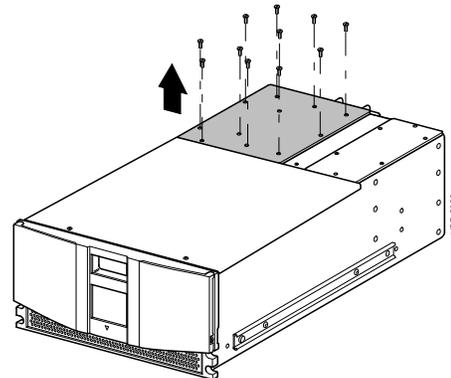

Figure 1. Remove Fan Cover Screws
- b. Turn the **power supply** switches to OFF (O).
- a. Remove and retain the **11 screws** that secure the Fan Cover assembly to the library chassis (**Figure 1**).